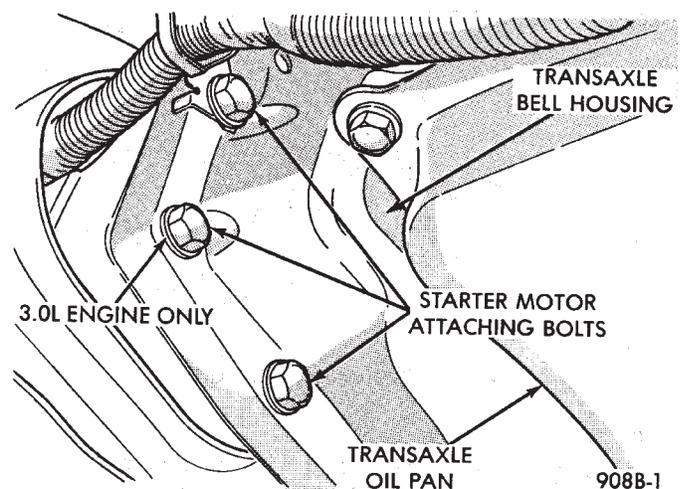

Fig. 4 Remove or Install Attaching Bolts—Typical
(3) Remove three starter attaching bolts at engine/transaxle (Fig. 4).